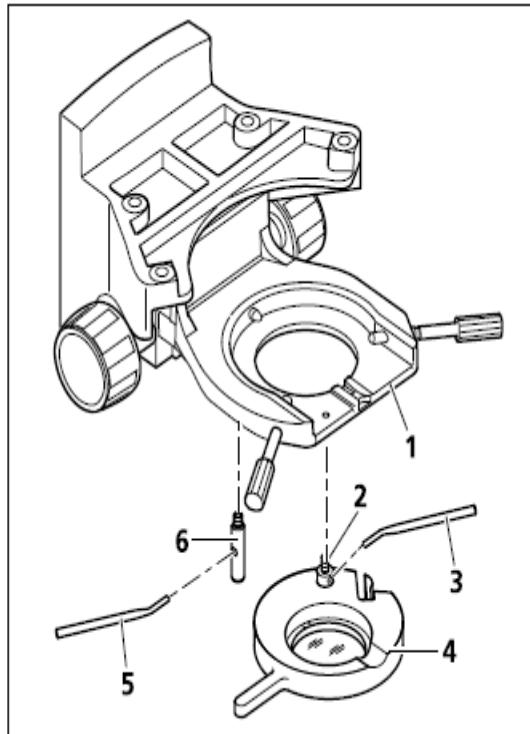

图. 3-26 安装起偏器
- | Hold the polarizer or filter holder (Fig. 3-26/4) parallel to the underside of the condenser carrier (Fig. 3-26/1) and screw the holding pin (Fig. 3-26/2) of polarizer (Fig. 3-26/4) with the angled adjusting lever (Fig. 3-26/3) into the front left threaded hole below the condenser carrier as far as it will go.
- | Screw the locking pin (Fig. 3-26/6) with adjusting lever (Fig. 3-26/5) as far as it will go into the rear threaded hole of the condenser carrier.